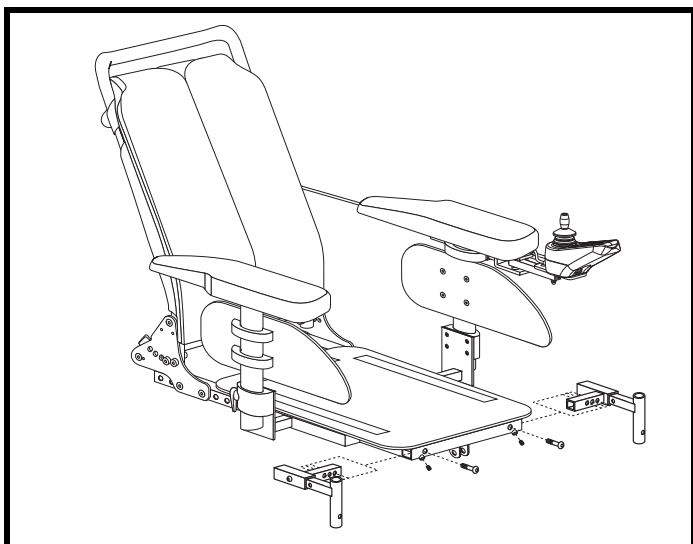

Figure 15. Seat Width Adjustment
2. Loosen the armrest receiver hardware. **See figure 15.**